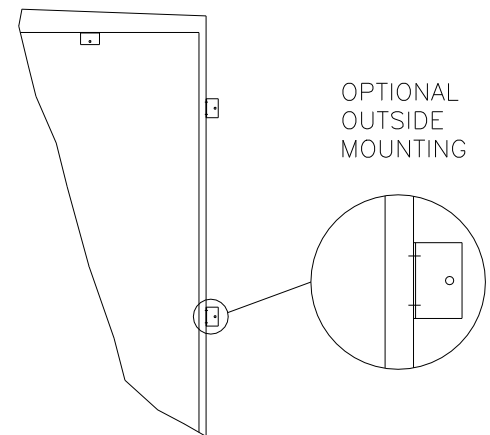

FIG. 1B
- If there is not enough space, install the Mounting Brackets on the outside of the Frames (Figure 1b).